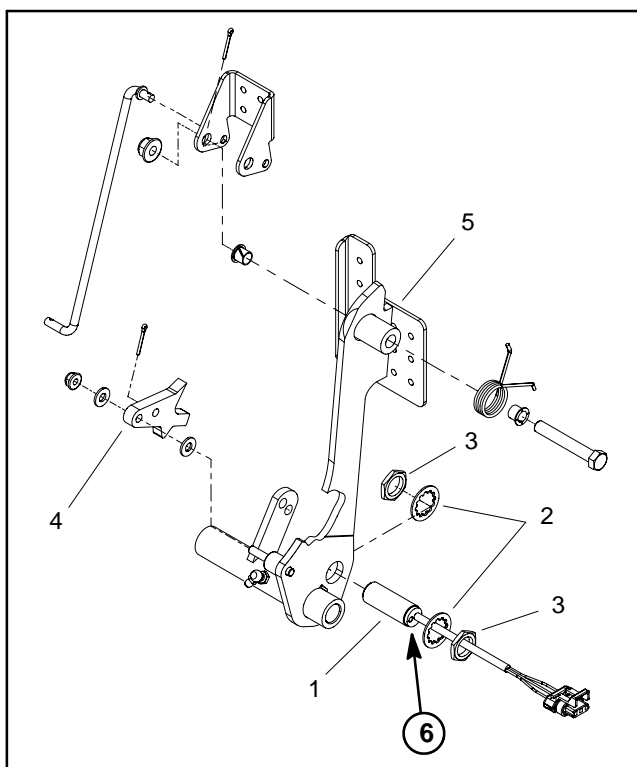

Figure 32
The parking brake switch is a normally open proximity switch. The parking brake switch is attached to the bottom of the brake pedal (Fig. 32). The parking brake switch is used as an input for the TEC controller.
2. Turn ignition switch to the ON position (do not start engine) and check LED on cable end of brake switch (Fig. 32). LED **should be** illuminated when the parking brake **is not** applied.